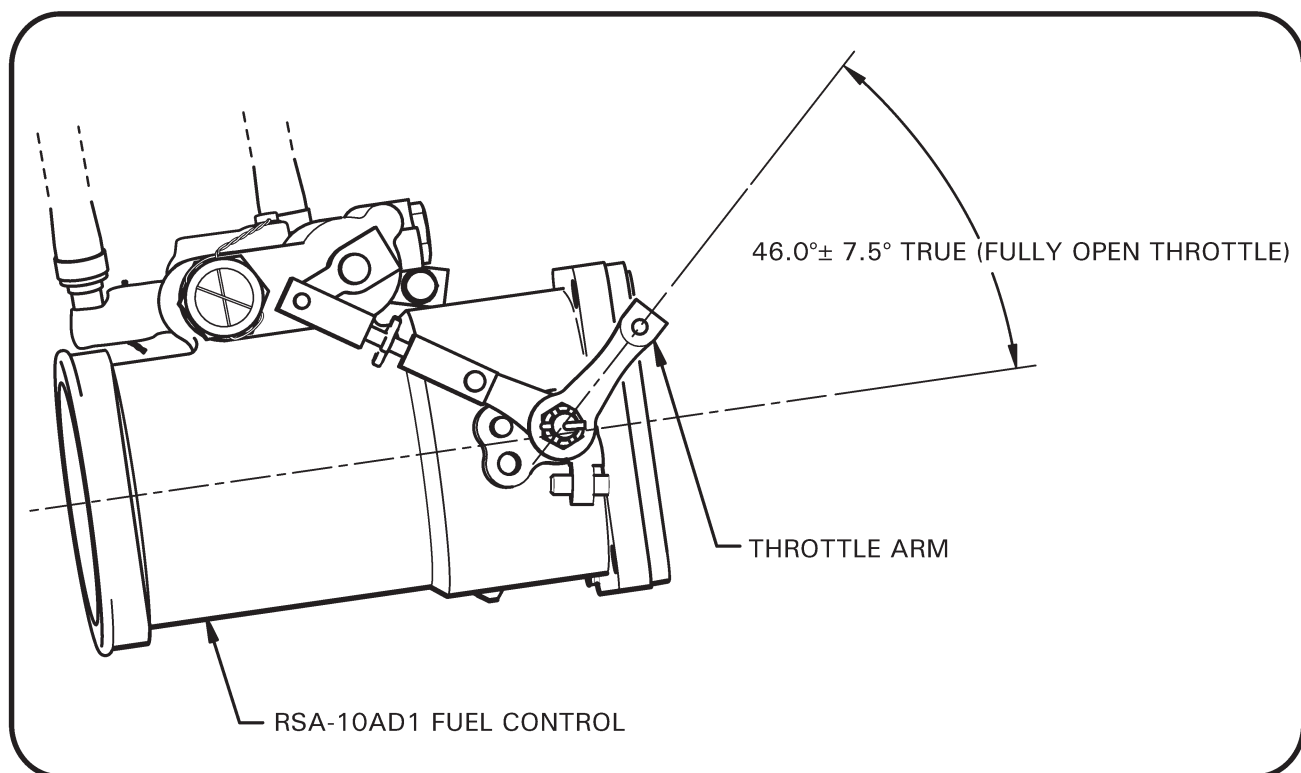
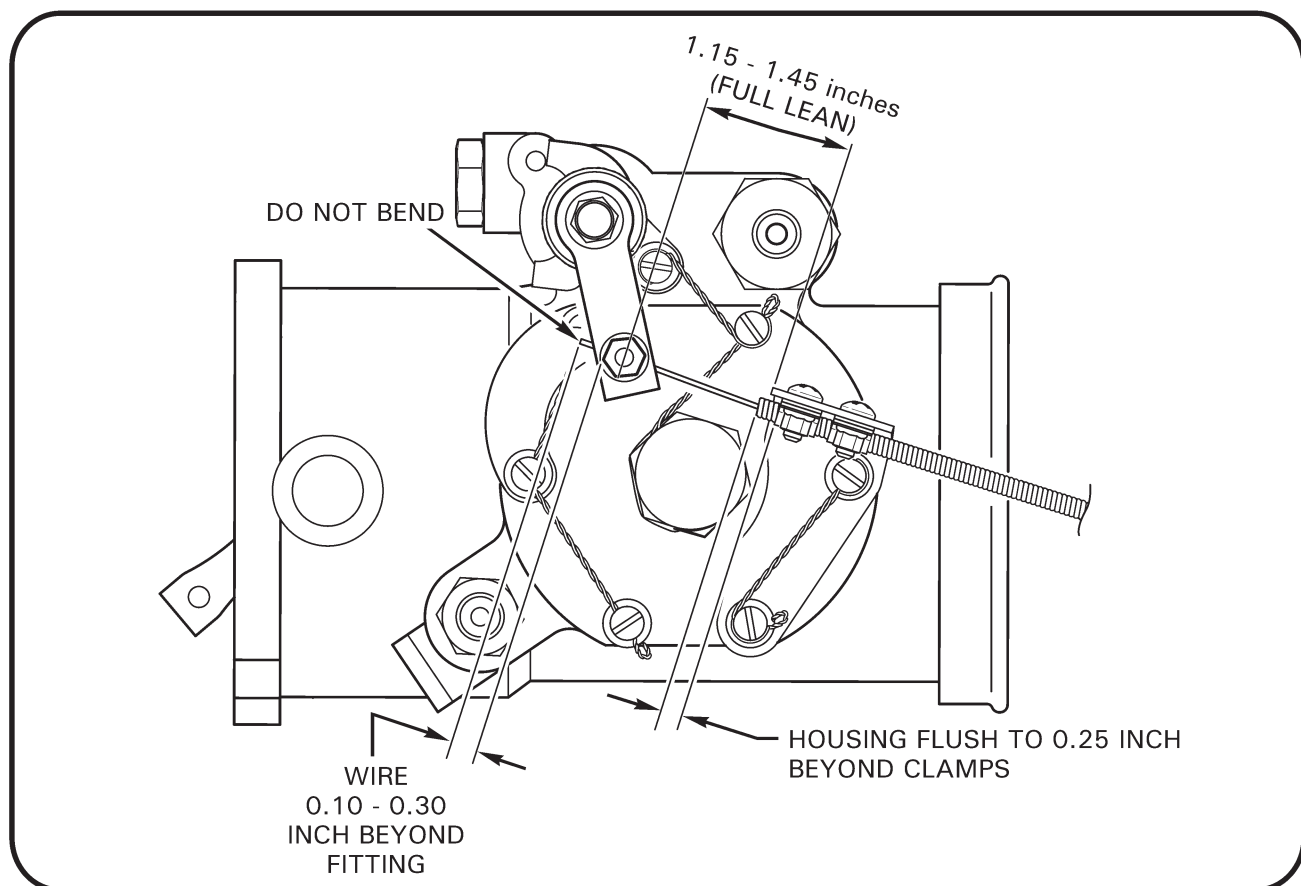

FIGURE 6-7 IO-540 THROTTLE ARM ADJUSTMENT
FIGURE 6-8 IO-540 MIXTURE CABLE INSTALLATION
3. Verify correct full-open throttle arm angle per Figure 6-7 and full-lean mixture arm distance per Figure 6-8; adjust as required. Install D930-1 mixture safety spring.
8. Refer to Figure 6-8. Connect mixture cable housing to bracket with housing flush-to-0.25 inch extended beyond clamps. Lubricate A130 spacer with A257-1 grease and connect mixture control cable inner wire to mixture control arm. Verify full travel and 0.03-0.10 inch clearance under mixture control knob when full rich. Mixture control inner wire should protrude 0.10-0.30 inch beyond A462 fitting securing wire to mixture control arm. If wire cannot rotate relative to mixture arm the A130 spacer in fitting may be missing or damaged; replace as required.